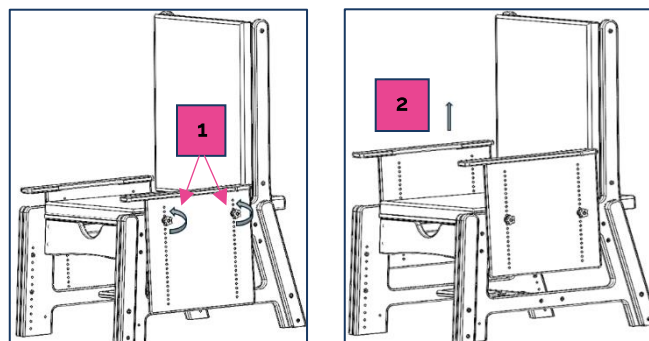

Fig. 4.2.5-1
1. Unscrew and remove the handwheels located on the side of the armrests (see Fig. 4.2.5-1 Ref 1)
2. Lower or raise the armrest to the desired position using the adjustment holes in the armrest (See Fig. 4.2.5-2 Ref 2).